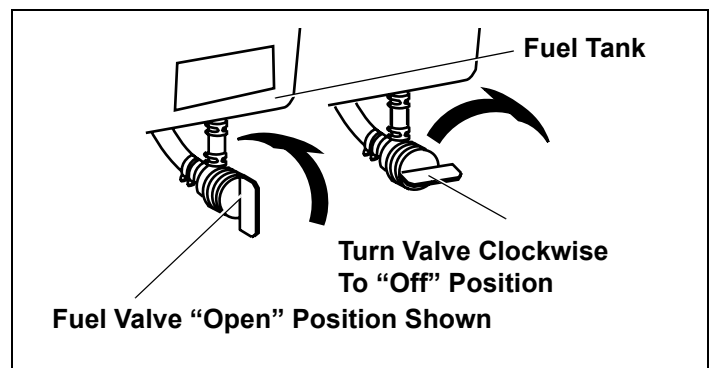

Figure 12. Fuel Valve Positions
6. Be sure fuel valve (optional) is open. See Figure 12.